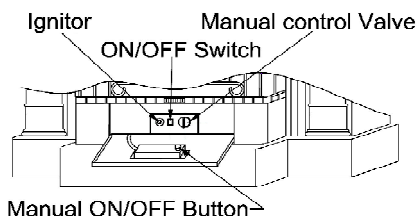

Figure 11 - Manual ON/OFF Button and ON/OFF Switch Location
- Set the Switch on OFF location. (See fig 11)